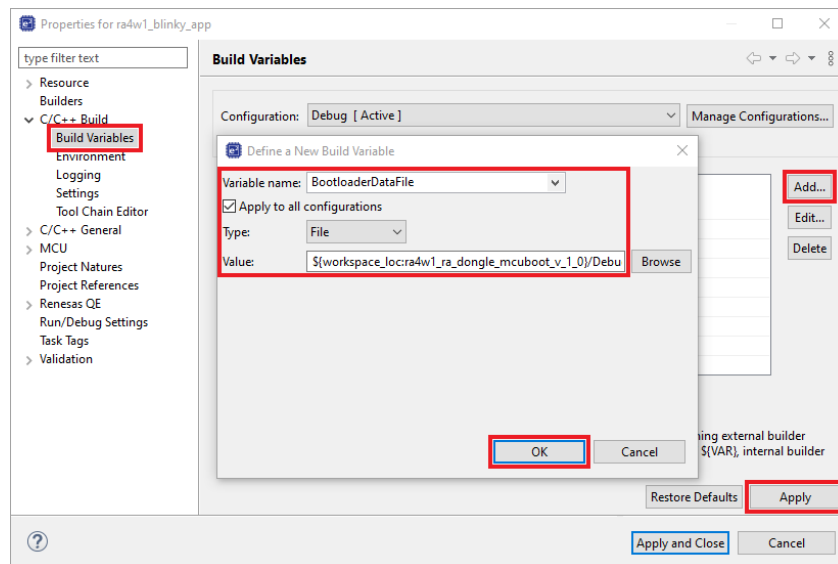

Figure 24. Adding a Build Variable to Use the Bootloader
14. Select **C/C++ Build > Build Variables**, click on the **Add...** button. In the **Variable name:** field enter **BootloaderDataFile**. Check the **Apply to all configurations** box (Figure 24). Change the **Type:** to **File** and in the bootloader project in **Value:** enter the following relative path to the *.bfd file: